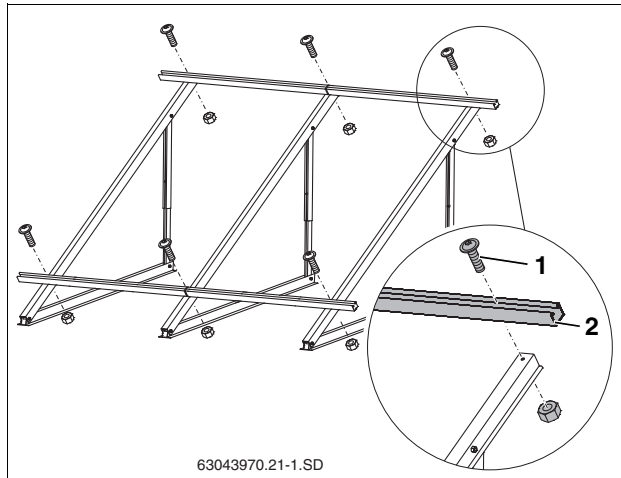

Fig. 34 Installing profile rails (for two portrait collectors in this example)
- ▶ Lightly tighten the pre-assembled profile rails (Fig. 34, [2]) with M8 x 20 bolts (Fig. 34, [1]) so that the profile rails can still be shifted.